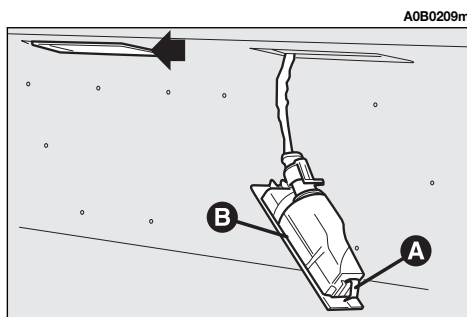

fig. 47
- Remove the number plate light unit using a flat screwdriver protected by a soft cloth on the stopper (**A-fig. 47**).
- Remove the unit (**B-fig. 47**).
- Refit the complete unit (**B-fig. 47**) firstly inserting the catches and then pressing in correspondence with the stopper (**A-fig. 47**).